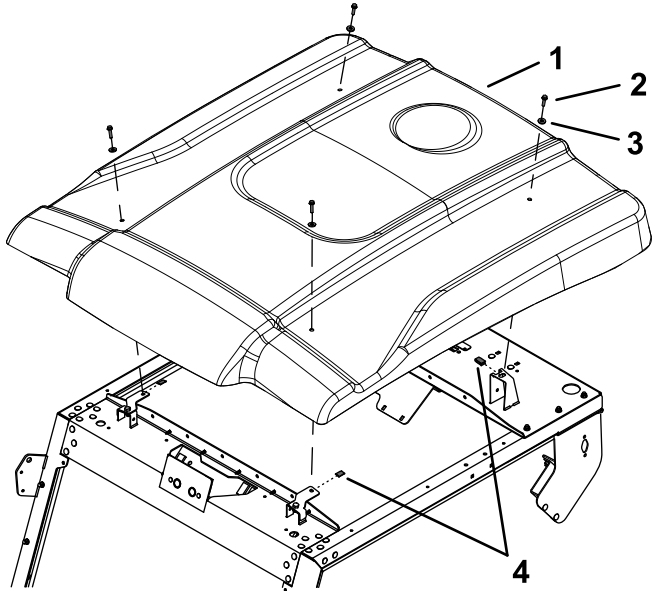

Figure 10
5. Install the sunshade onto the frame with 4 hex-head flange bolts (1/4 x 1 inch), 4 sealing washers, and 4 clips (Figure 10).